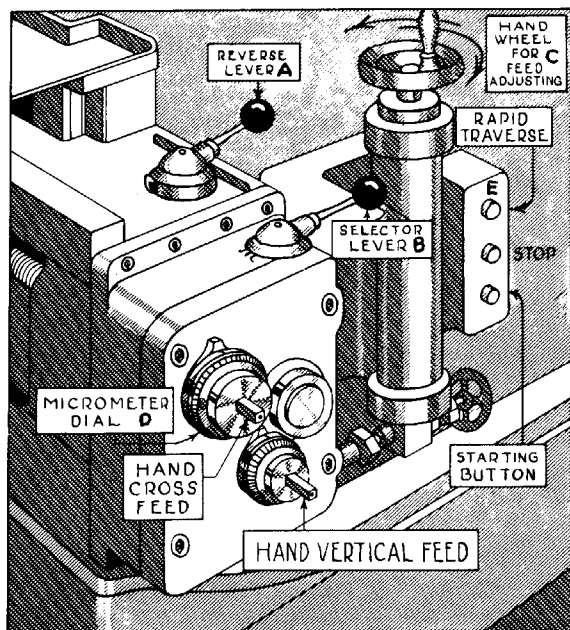

FIG. 54
Levers (A) and (B), Fig. 54, control both the automatic cross and vertical feeds. The beveled edge on lever (B), called the selector, bears the words "Cross" and "Vertical". They refer to the feed which may be selected by moving lever (B) in one direction or the other from its "Off" position.
The operation of the rapid traverse mechanism is much the same as the operation of the regular feed. The one important exception is that in addition to the cross power traverse, vertical power traverse is also available. In other words, the reverse lever (A) in Fig. 54 determines the direction (toward or away from the operator) of the horizontal traverse. It also determines the direction (up or down) of the vertical traverse. The position of selector lever (B) determines whether the movement of the table is to be horizontal or vertical, depending on whether the word "Cross" or "Vertical" on the hub of the lever is moved to the reference mark.